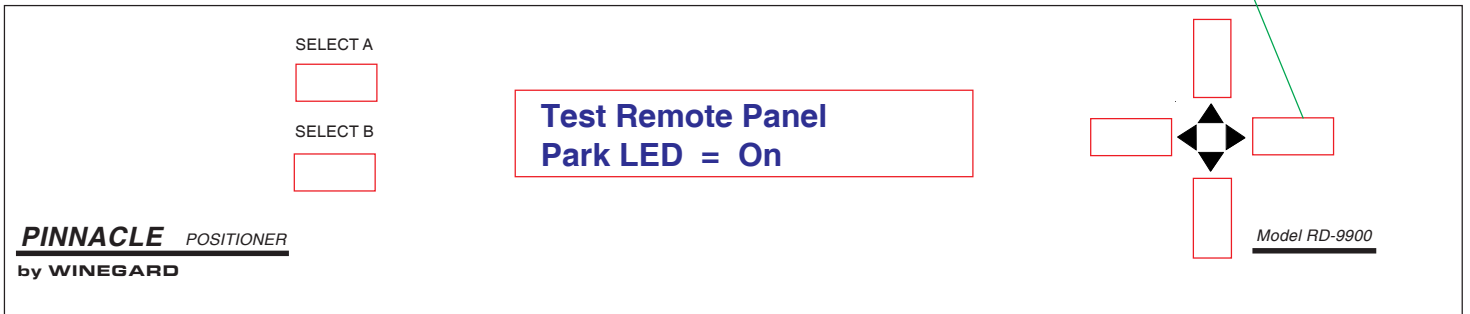

Figure 17
10. Press **[RIGHT]** arrow button twice. Park LED will light on remote panel when **Park LED = On** is displayed on positioner. See Figure 17.